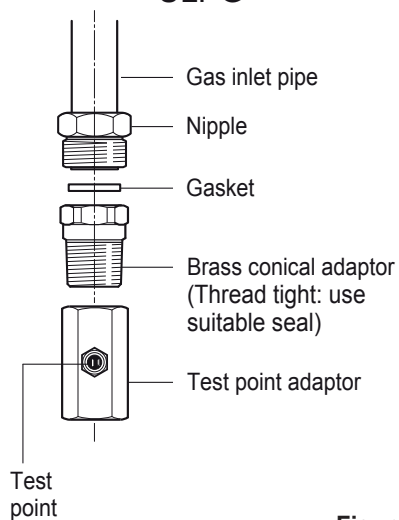

Figure 7
- Before connecting the appliance to the gas main, mount the brass conical adaptor onto the gas inlet pipe, upon which the gasket has been placed (figs. 7 - 8). Conical adaptor and gasket are supplied with the appliance (packed with conversion kit for use with Natural gas or ULPG).
- For ULPG models the gas supply is connected to the test point adaptor which is supplied with the appliance (fig. 7) and ensure that the supply pressure is regulated to 2.75 kPa.
- If the cooker is suitable for use with Natural gas and must be converted for use with ULPG, before connecting to the gas mains remove the appliance gas regulator and replace with test point adaptor (see figs. 7 - 8).
- If the cooker is suitable for use with ULPG and must be converted for use with Natural gas, before connecting to the gas mains remove the appliance test point adaptor and replace with gas regulator (see figs. 7 - 8).